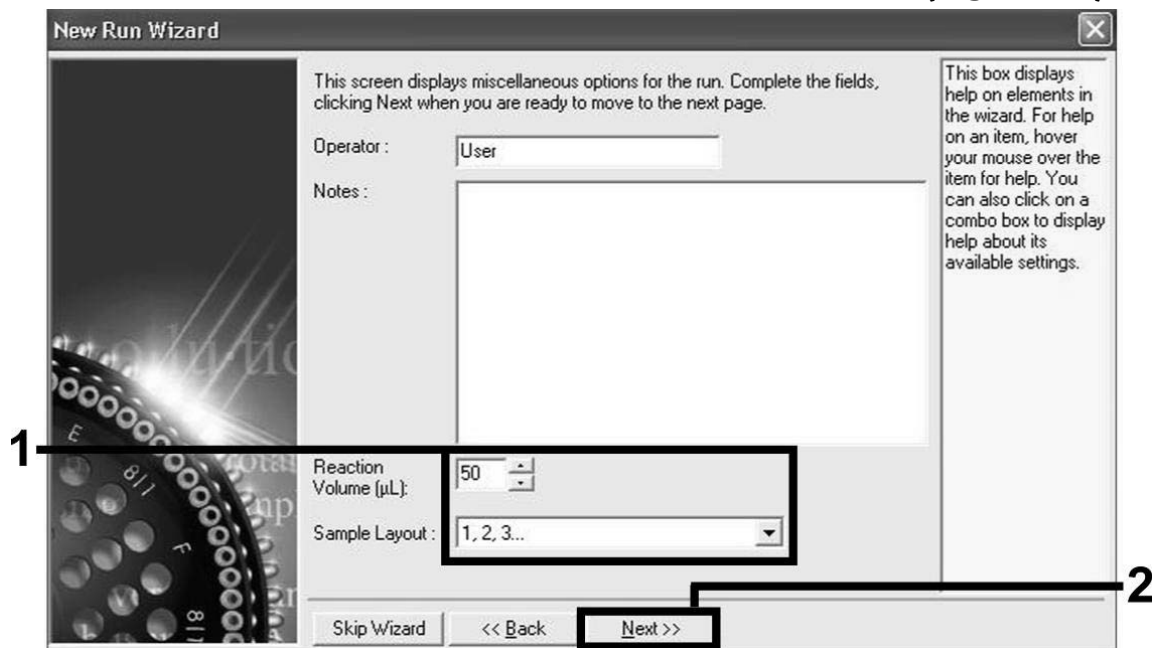

Figure 10. Setting the general assay parameters.
5. Select 50 for the PCR reaction volume and click “Next” (Figure 10).